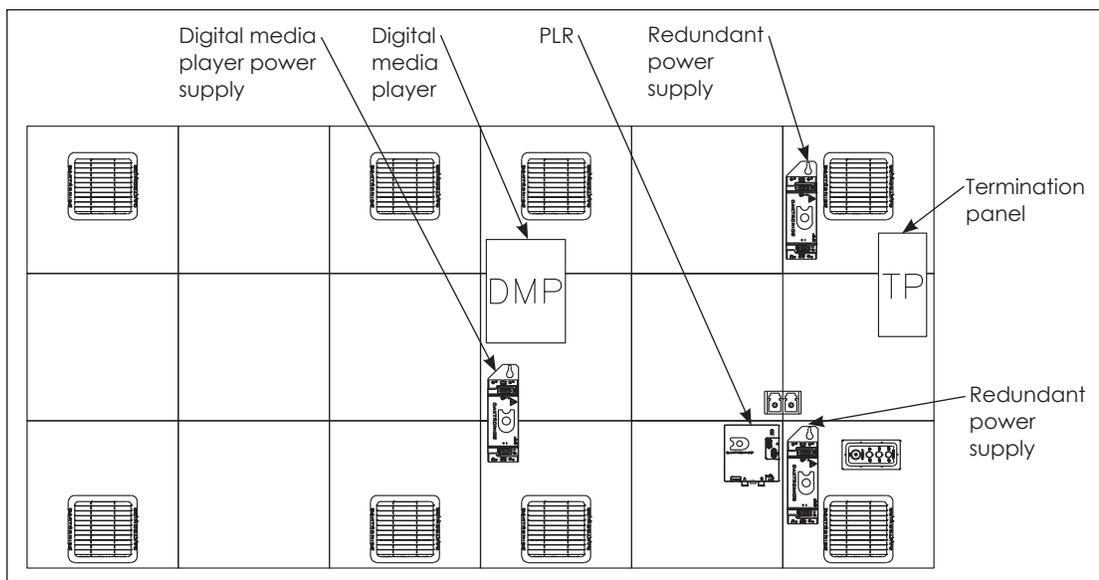

Figure 52: Typical Component Layout (Rear View)
1. Locate the component to remove on the Layout; Component Placement Drawings in **Appendix A: Reference Drawings (p.47)** and **Figure 52**.